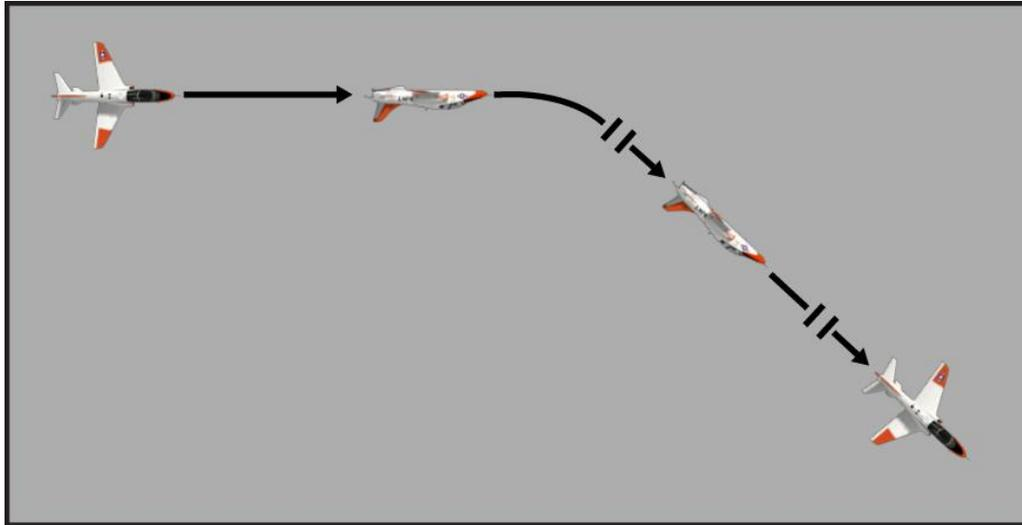

Figure 1-26 Wingtip On, Guns 'D' Low
- b. Nose-low – There are several reasons why we might want to initiate a defense “Nose-low.” A nose-low maneuver has the combined effect of increasing radial G and thus displacement; gravity helps us maintain kinetic energy (Figure 1-26). However, a slow-speed, nose-low maneuver will be fairly easy for an attacker to follow. If the attacker is coming from low-to-high, then maneuvering opposite their plane-of-motion could be advantageous. However, maintaining visual in a nose-low Guns ‘D’ is often difficult and makes follow-on BFM problematic.